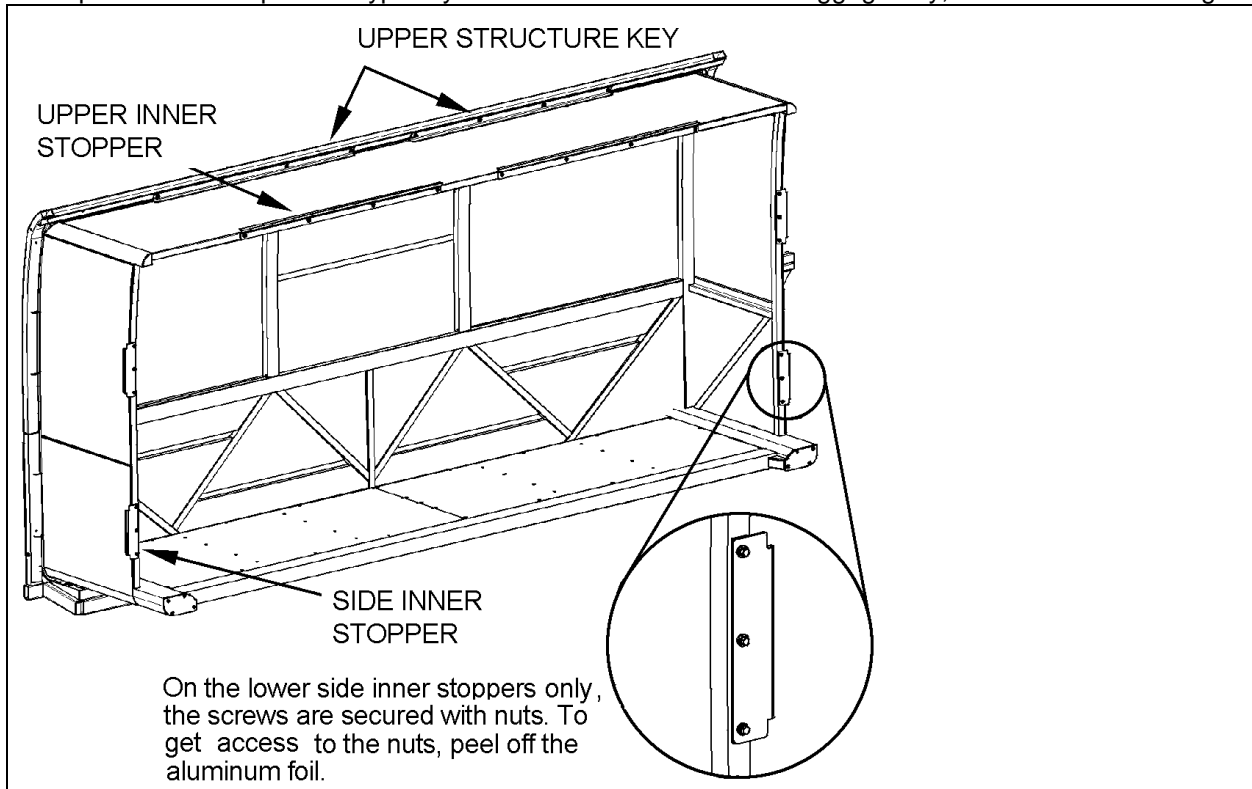
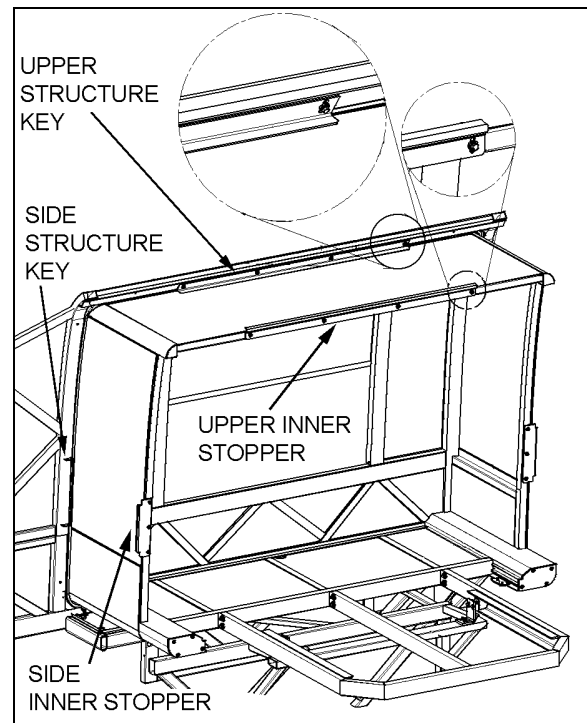

FIGURE 3: FRONT LEFT SLIDE-OUT
FIGURE 4: REAR SLIDE-OUT
The front left slide-out is equipped with six inner stoppers laid out in the following way: two stoppers on the top horizontal member of the slide-out, and two stoppers on each vertical upright, while the rear slide-out is equipped with only three stoppers (Figure 3 & Figure 4). The upper inner stoppers are used to provide a support to position perpendicularly the slide-out with the vehicle structure.
The side inner stoppers are used to block the extension of the slide-out. They act as ultimate physical limits but take note that when the “out limit” sensors are properly adjusted, the slide-out extension stops before the side inner stoppers reach the side structure keys (Figure 3 & Figure 4).
2. Adjust the upper structure key and the upper inner stoppers according to FIGURE 4 with the seal deflated. When inflating, the seal presses the roof structure upward and at that moment, the upper inner stopper comes into contact with the upper structure key